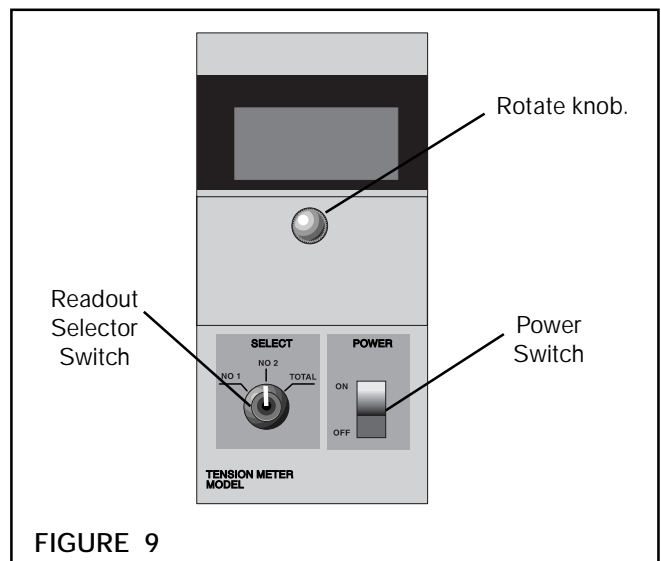

FIGURE 9
1. Set **Power Switch** to **ON** (See Fig. 9).
2. Rotate the knob in the upper portion of the Front Panel to release the catch, then open the Front Panel (See Fig. 9).
4. Set the **Readout Selector Switch** to **No. 1** (See Fig. 9)
6. Set the **Readout Selector Switch** to **No. 2** (See Fig. 9).
7. Rotate **No. 2 ZERO** variable resistor to obtain **000** on the indicator (See Fig. 9).
9. Set the **Readout Selector Switch** to **No. 1** (See Fig. 9).
11. Set the **Readout Selector Switch** to **No. 2** (See Fig. 9).
17. Set **POWER SWITCH** to **OFF** (See Fig. 9)